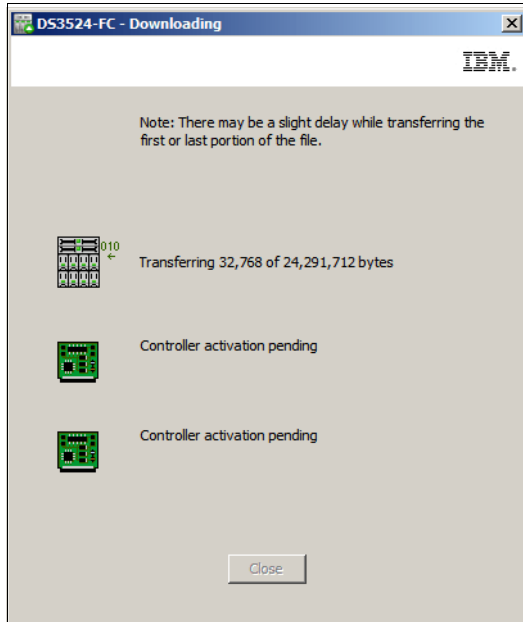

Figure 14-72 Downloading the firmware
- The microcode will now be transferred to the storage subsystem and applied to both installed controllers. This can take some time. You can monitor the status in the Downloading window that appears (Figure 14-72 on page 377).